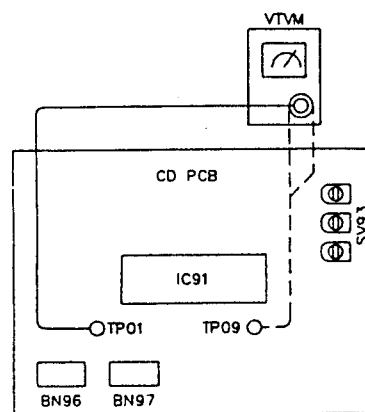

FIG4
1. Test equipment connection is shown in figure (Fig 4)